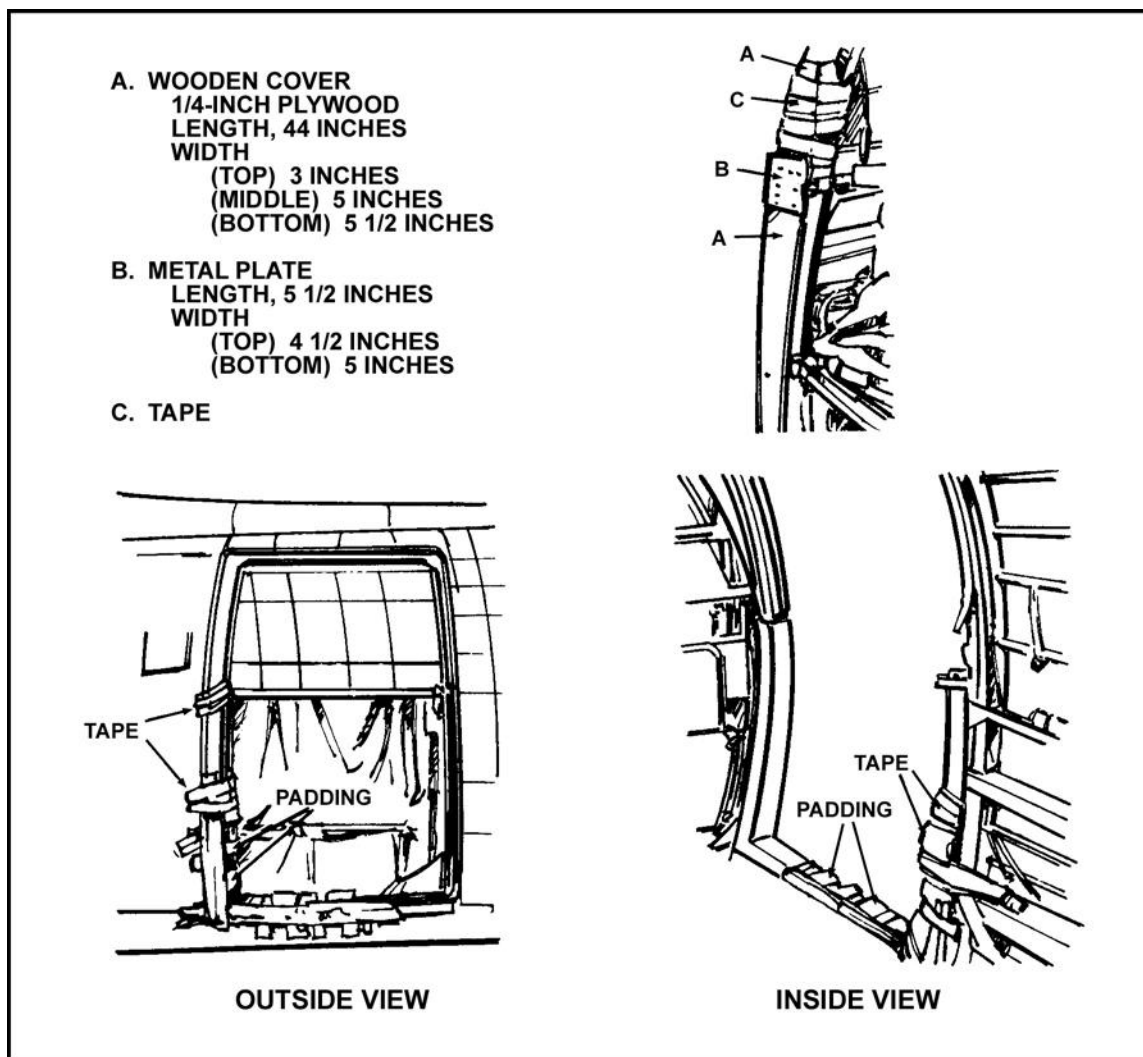

Figure 18-6. CH-46 door frame preparation.
(4) Place two 4- by 6-inch wooden blocks between the anchor line cable and floor and attach a clevis assembly (G-13) to the tie-down ring at station number 190 for use as a static line snap hook stop.
(5) Remove excess slack from the anchor line.
(6) Turn the conveyor rollers over and secure them in the down position with the smooth surface up.
(7) Attach the 5-foot static line extension (NSN 1670-00-368-4225) to the anchor line cable; insert and bend safety wires.
(8) Ensure drive-on aids are removed.
(9) Remove the personnel door and install a plywood cover over the aft side of the door frame and secure it with a metal plate. Pad and tape the bottom and aft edges of the door frame (Figure 18-6, page 18-8).